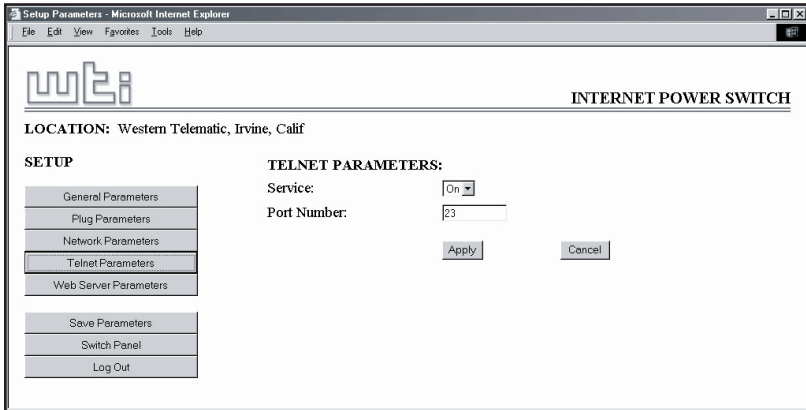

Figure 5.10: Telnet Parameters Menu - Web Browser Interface
**Web Browser Interface:** Click the "Setup" button to access the configuration menus, and then click the "Telnet Parameters" button to display the menu shown in Figure 5.10.